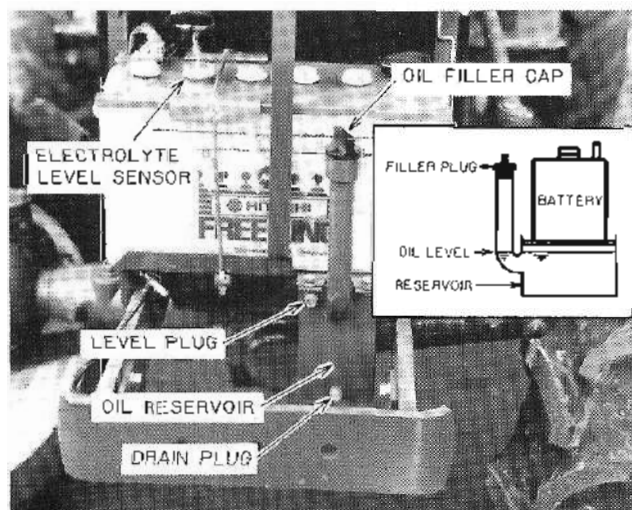

Figure 48 — Power Steering Reservoir and Oil Level
1. With the tractor standing level, and the wheel in the straight-ahead position, check the oil level, Figure 48.
6. Fill the reservoir with new oil of the type specified, page 24, until the oil reaches the level, Figure 48.